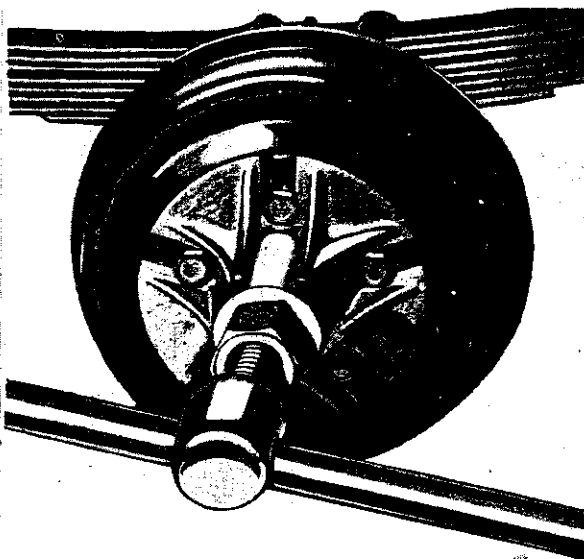

FIG. N-4—WHEEL HUB PULLER
- e. Use Wheel Hub Puller C-319 to remove the wheel hub as shown in Fig. N-4.